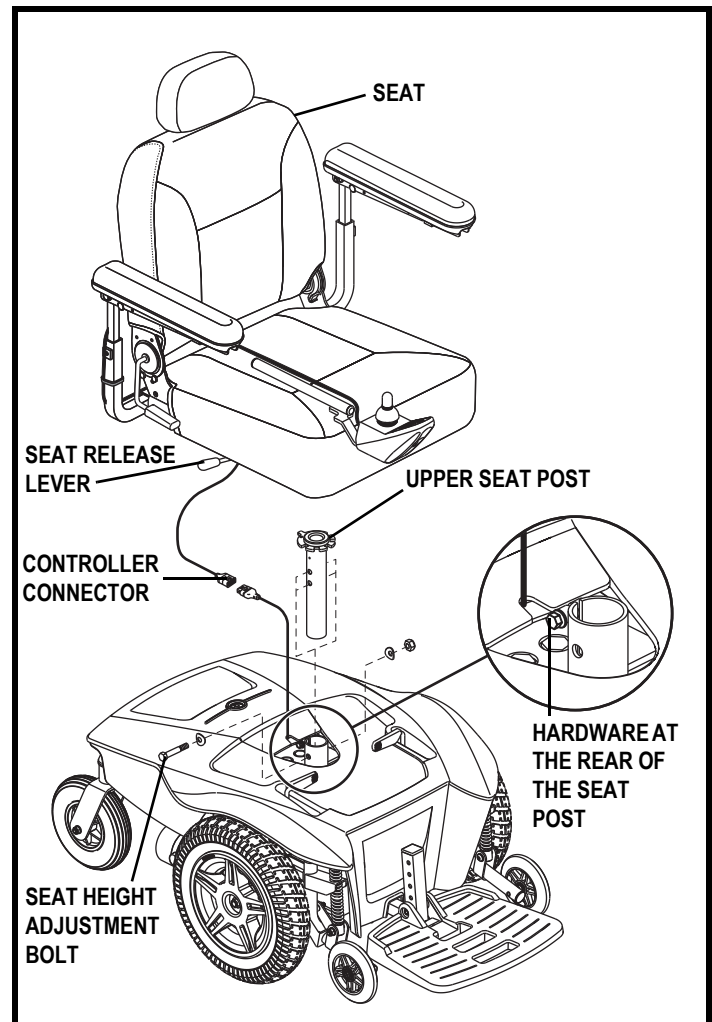

Figure 12. Seat Height Adjustment
3. Disconnect the controller connector from the power base. See figure 12.
4. Disengage the seat release lever and swivel the seat back and forth while lifting it up and off the power base. See figure 12.
5. Loosen the hardware at the rear of the seat post. See figure 12.
6. Remove the seat height adjustment bolt, washers, and nut from the seat post. See figure 12.